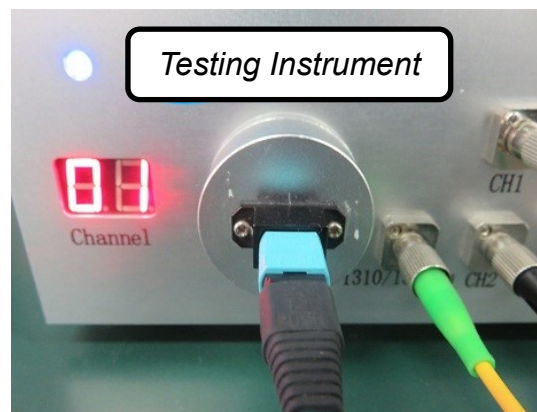
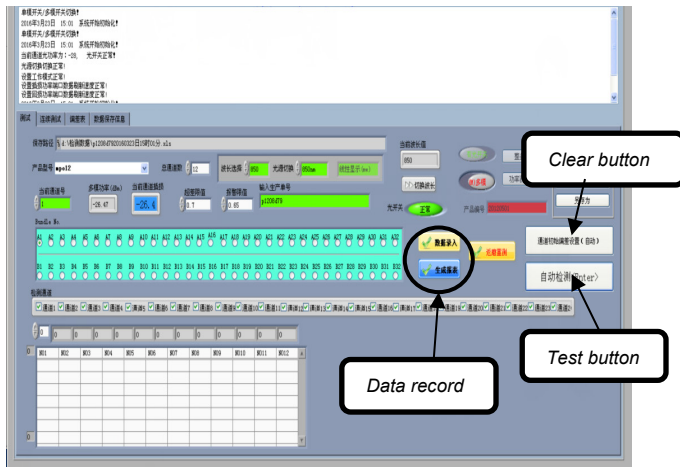

Figure 1
Figure 3
- 1.1 Clean the instrument. Connect the master cord MPO connector onto the instrument's optical receive port, as shown in Figure 1; click the "Channel Initial Deviation Setting (Auto)" button to start clearing. As shown in Figure 3.
- 1.3 Click "Auto Detect" to test, as shown in Figure 3. After each joint test is completed, click "Data Entry" → "Generate Report" to save the data.